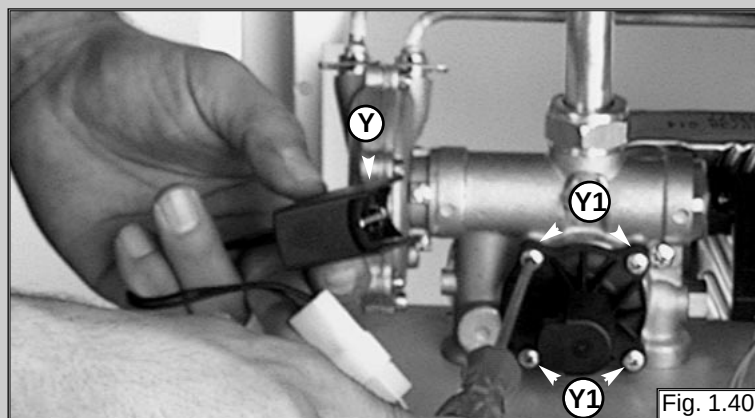

Fig. 1.40
2. Remove the screws "Y1" (see fig. 1.40);